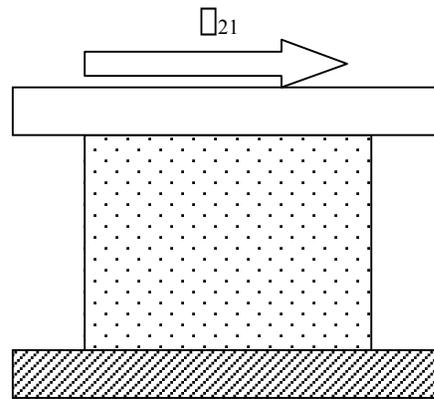

Fig. 1b
b) Next, a shearing force is applied as in Fig. 1b. What is the shear modulus of the specimen, based on your measurements in (a) and the stated assumptions? How great a shear force would need to be applied to displace the top surface a distance of $0.1h$?
(c) Find an expression for the Young's modulus E in terms of the shear modulus G and Poisson's ratio ν by applying both forms of Hooke's law to the shear configuration shown in Fig. 1b.